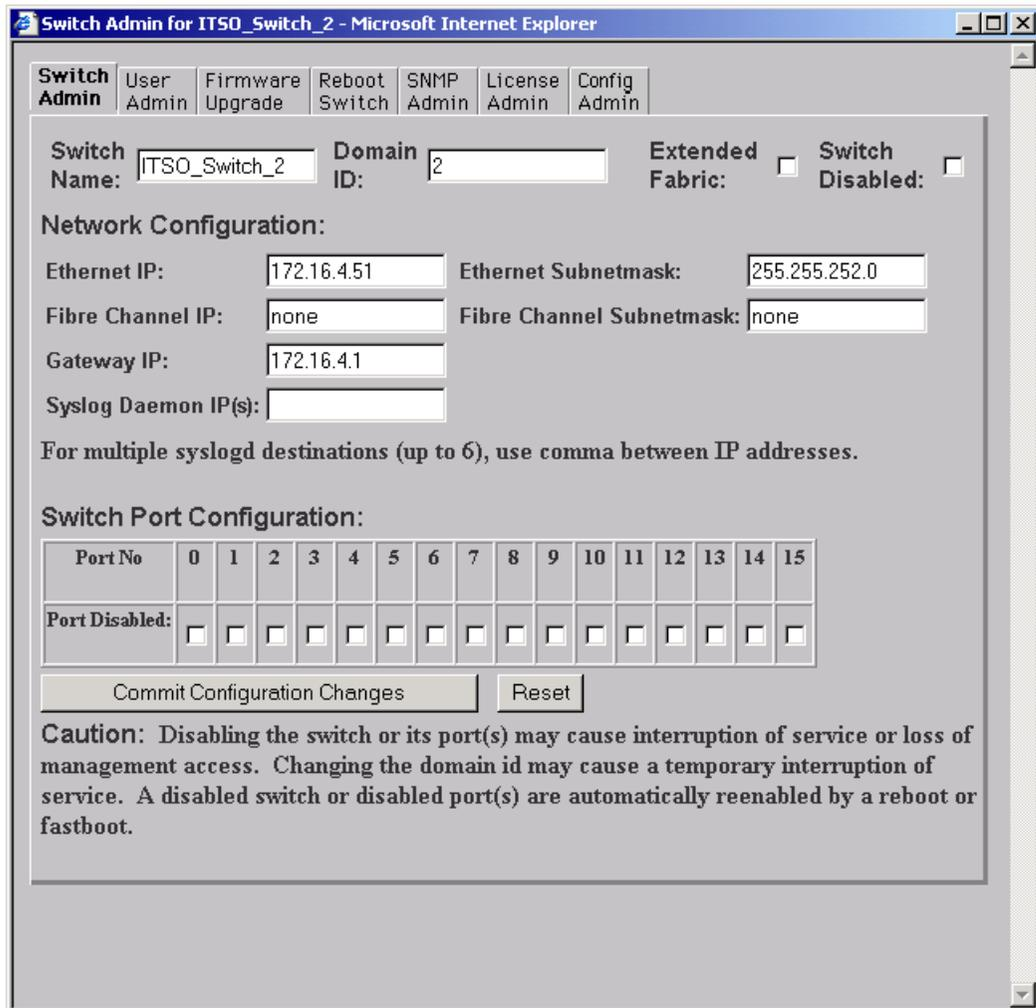

Figure 7-1 Second switch configuration
4. In the Switch Admin window for the new switch, enter a switch name and domain ID. Each switch connected to the fabric must have a unique domain ID (see Figure 7-1):